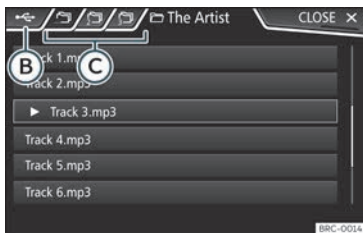

Fig. 154 Media Mode: list of tracks of a Media source.
- Press the **SELECT** function button on the **MEDIA** main menu >>> **Fig. 151** to open the track list. The track that is playing is highlighted >>> **Fig. 154**.